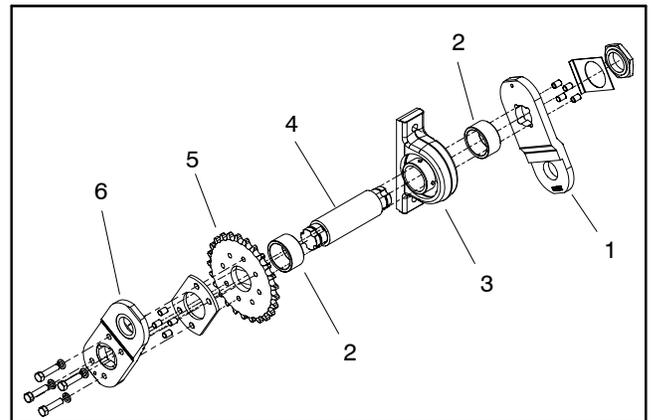
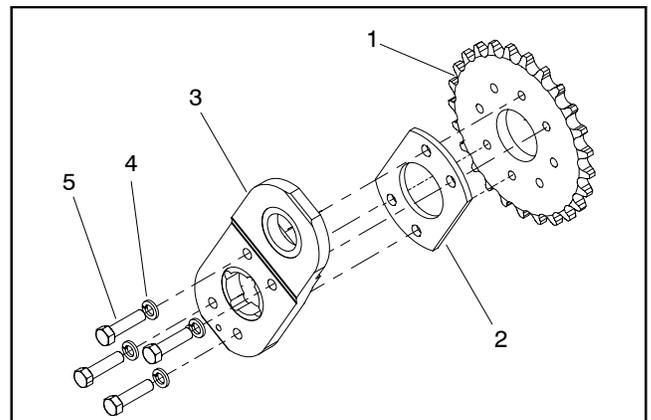

Figure 13
Figure 14
C. Bend locking plate (item 10) away from crank shaft nut (item 9) that secures one of the crank arms (item 4 or 13) to crank shaft (item 12). Remove the crank shaft nut.
D. Slide crank arm from crank shaft. Locate and retrieve four (4) dowel pin bullets (item 5) from crank arm.
E. If sprocket is attached to the removed crank arm, remove spacer from both sides of bearing housing (Fig. 13).
F. If sprocket is attached to removed crank arm, remove sprocket if necessary (Fig. 14).
A. If a removed crank arm included a drive sprocket, install sprocket if it was removed (Fig. 14).
B. If both crank arms were removed from crank shaft, use notes made during disassembly to properly orientate one of the crank arms (items 6 or 13) and slide onto crank shaft. Install locking plate and crank shaft nut onto crank shaft threads to secure crank arm to crank shaft. Make sure that nut shoulder fits into hole in locking plate.
C. Apply antiseize lubricant liberally to crank shaft (item 12). Slide crank shaft with attached crank arm into bearing housing. Do not tighten bearing set screws (item 15) at this time.
D. If sprocket is attached to either of the removed crank arms, install spacer to both sides of bearing housing (Fig. 13).
E. Using notes made during disassembly, properly orientate second crank arm (items 6 or 13) and slide onto crank shaft.
F. Place four (4) dowel pin bullets (item 5) to each crank arm.
3. Position bearing housing assembly to aerator frame. Install two (2) cap screws and lock nuts to secure bearing housing assembly to coring head frame.